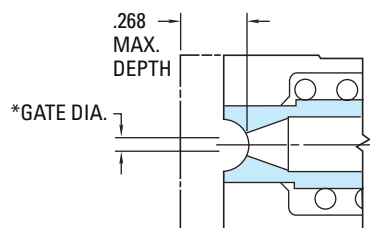

FIG. 5
**Always** machine runner profile or part contour to the .268 maximum depth at centerline of gate (Figures 5 and 6). However, do not weaken the bushing face by exceeding this maximum dimension.